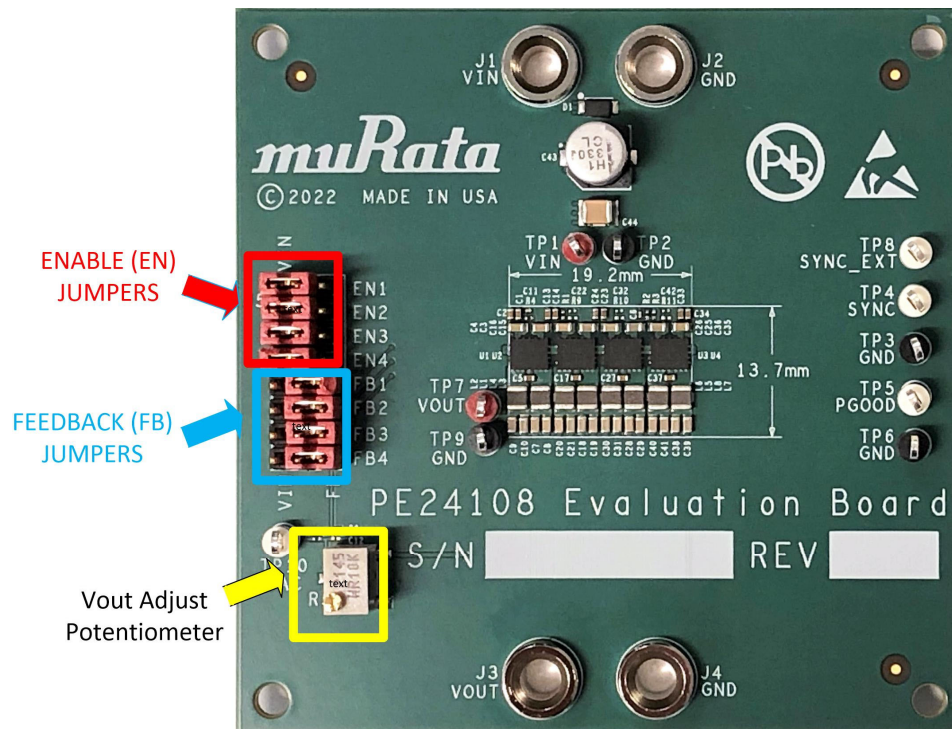
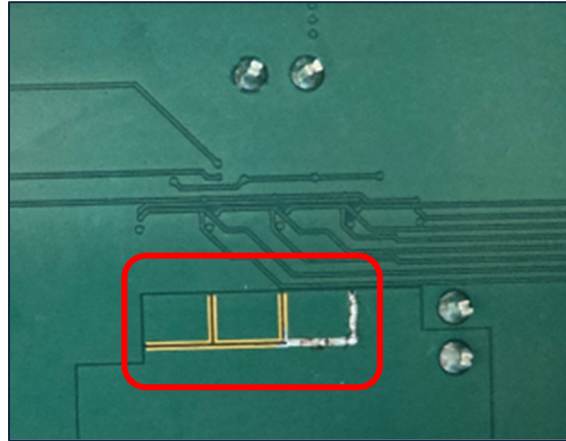
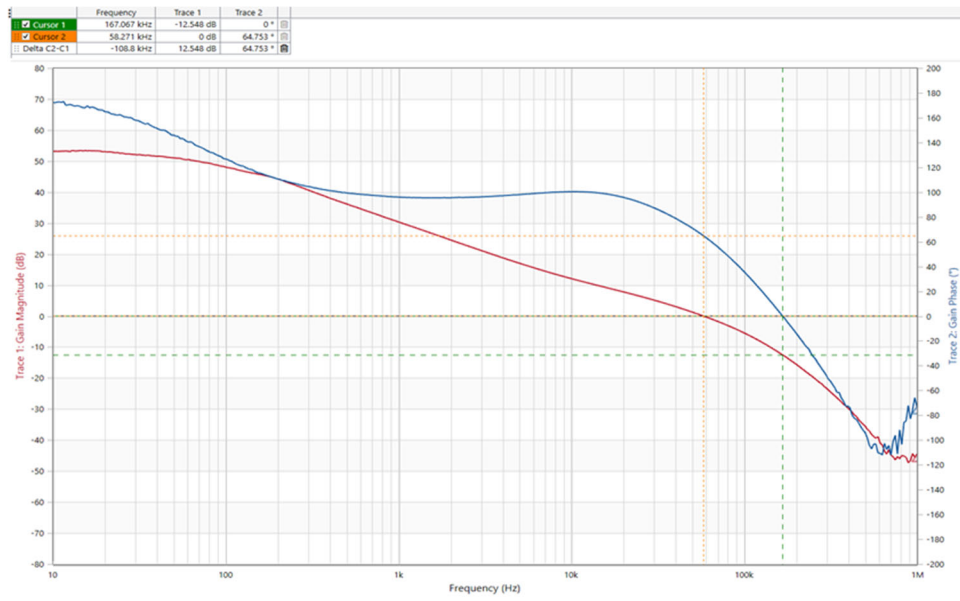

Figure 3. Enable and Feedback Jumper Position, Vout Potentiometer
Figure 4. VOUT Trace Solder Bridging
Figure 8. Bode Plot ($V_{in}=3.3V$, 10A Load)
Jumpers are provided that connect the enable pins to either VIN or GND, for enabling or disabling each device. Normal operation requires the EN jumpers to be in place and connected to VIN to VIN for the given board configuration. There are also jumper positions for the FB pins of each device, which allow connection to VIN or to the other device's FB pins (common FB). Normal operation requires the common FB pin configuration. Figure 3 illustrates the x4 board with four jumpers in place for the EN pins and FB pins.
The output voltage is adjustable by varying the potentiometer R5. (See Figure 4.). Adjusting the potentiometer clockwise will decrease VOUT. It is recommended to limit the VOUT range from 0.40V to 1.00V maximum (Although the potentiometer allows a wider VOUT adjustment).
Each regulator device has pads for an R-C network for compensation. The standard values are given in the schematic. A bode plot is shown in Figure 8 for the circuit in Figure 4. Adjusting the R-C values can be done and is governed by the type II compensation circuit with one pole and one zero.
The EVK board has provisions for connecting the individual outputs together to the VOUT plane, reducing output resistance to the VOUT jacks. The backside of the board has an area where solder bridges will connect the outputs together. For just the x1 configuration, no additional soldering is needed. The x2 configuration solder bridge is shown in Figure 4, with the far-right section (position 1) bridged. For the x3 configuration, the next section would also be bridged, and for x4 all sections will be bridged. If the board received does not have these bridges soldered, they must be added.
1. With the power off, ensure the jumpers are in the positions shown in Figure 3 and the backside has correct bridging as shown in Figure 4.